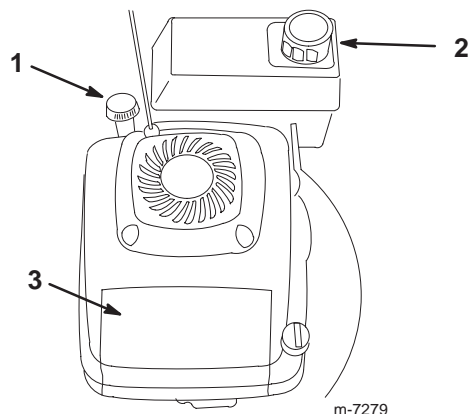

Figure 9
1. Clean around the fuel tank cap (Fig. 9).
2. Open the fuel valve (Fig. 9).
5. Pull the starter handle (Fig. 9) lightly until you feel resistance, then pull it sharply.